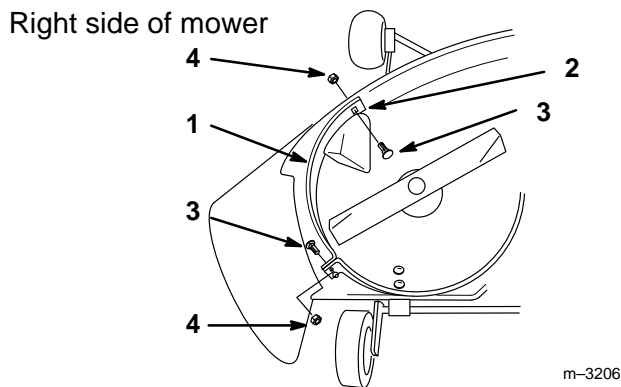

Figure 5
4. Position discharge baffle in discharge opening. Engage pin on flange into rear right baffle (Fig. 5).
6. Secure flange hole of baffle to rear discharge baffle with a 5/16–18 x 3/4" (19 mm) carriage bolt and 5/16" locknut (Fig. 5).
7. Using the baffle as a guide, drill a 11/32" hole in the right front of the mower (Fig. 5).
8. Place a 5/16-18 x 3/4" (19 mm) carriage bolt through baffle, with head on the inside. Secure with 5/16" locknut (Fig. 5).